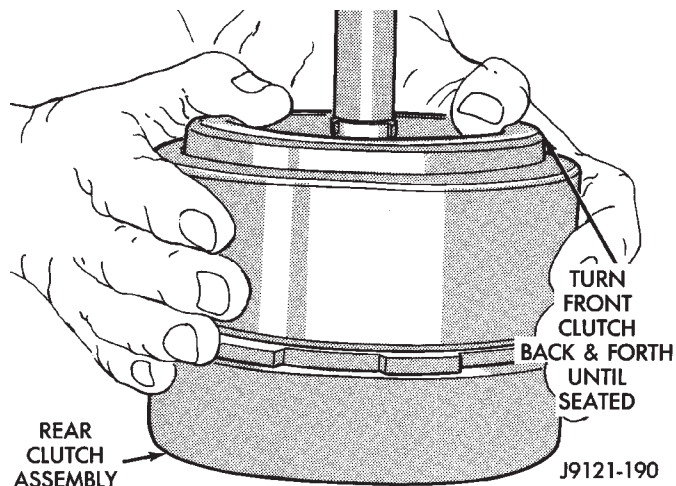

Fig. 143 Assembling Front And Rear Clutch Units
(4) Align clutch discs in front clutch and install front clutch on rear clutch (Fig. 143). Rotate front clutch retainer back and forth until completely seated on rear clutch.